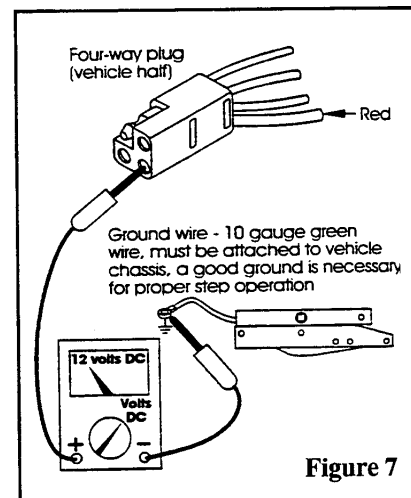

Figure 7
13. To check the main power source, connect the voltmeter between the red wire from the four-way plug (vehicle half) and the ground terminal at the end of the control unit's 10-gauge green ground wire (See Figure 7). The reading should be a minimum of 12 volts DC.